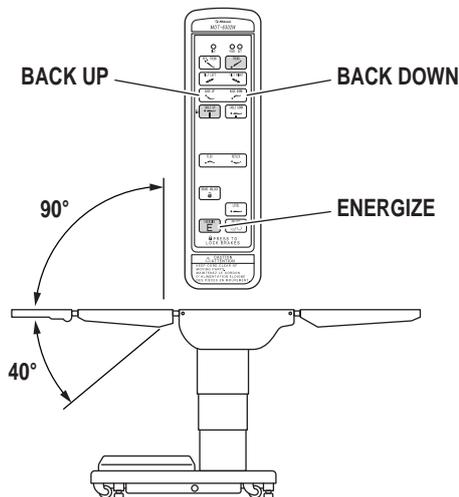

Figure 2-10. Back Section Positioning
d. Back Section To raise the back section, press the ENERGIZE button and then the BACK UP button (figure 2-10). The back section will raise up to 90° above horizontal. To lower the back section, press the ENERGIZE button and then the BACK DOWN button. The back section will go down to 40° below horizontal.